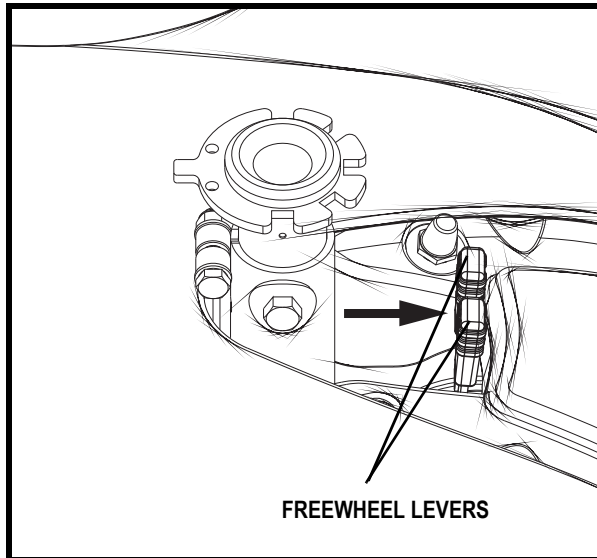

Figure 8. Drive Mode (Drive Engaged)
2. Push both levers forward away from the seat post to engage the drive motors (drive mode). See figure 8.
2. Ensure the power chair is in drive mode. See figure 8.